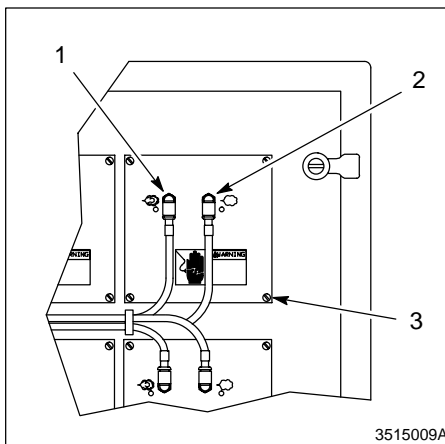

Fig. 2 Front panel of voltage-to-pressure regulator
3. See Figure 2. Secure the voltage-to-pressure regulator with the four screws (3).